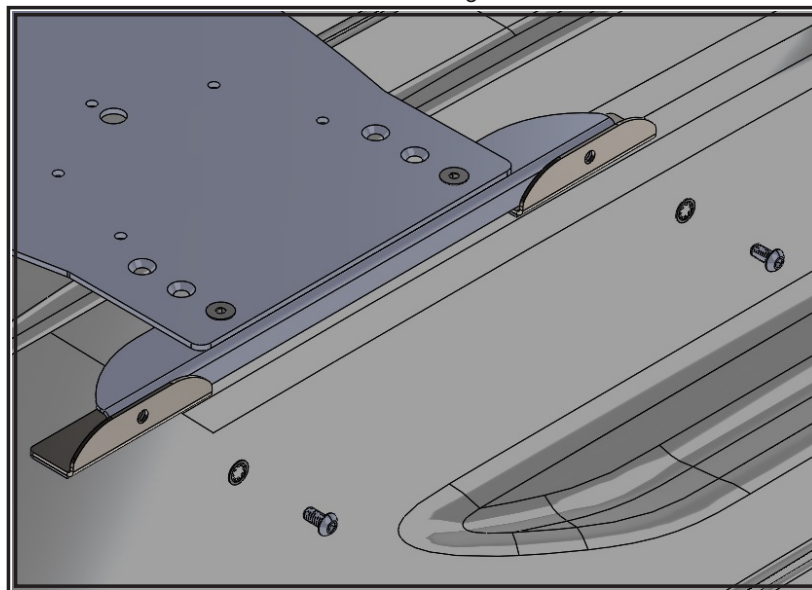

Figure 5
4. Remove the four 1/4"-20 button head screws and star washers from the mounting bracket and set aside. Remove the plate assembly (with the brackets still attached) from the vehicle roof and set aside. See Figure 5.